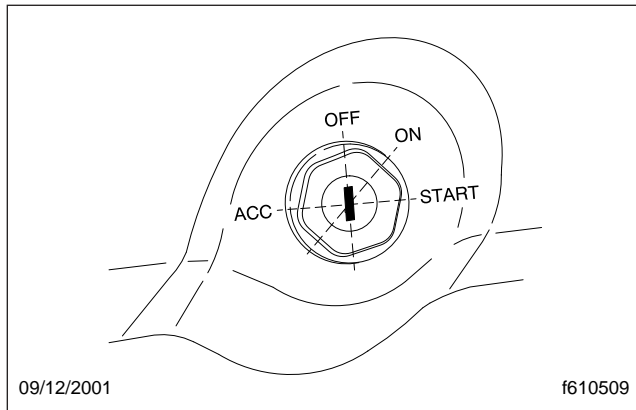

Fig. 19.7, Ignition Switch Positions
4. Ensure that the transmission shift control is in Neutral (N), Park (P), or the Park Brake (PB) position.
- Without starting the engine, turn the ignition switch to the ON position (**Fig. 19.7**). The electronic gauges on the instrumentation control unit (ICU) will complete a full sweep of their dials, the warning and indicator lights will illuminate, and the buzzer will sound for three seconds.